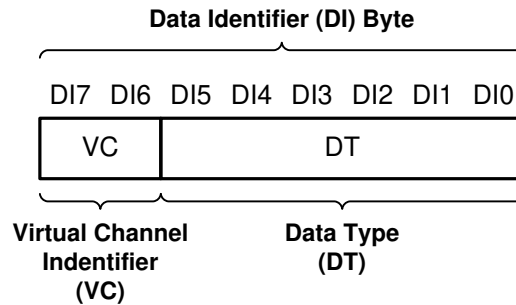

图 7-11. CSI-2 Data Identifier Structure
The DS90UB954-Q1 MIPI CSI-2 protocol interface transmits the data identifier byte containing the values for the virtual channel ID (VC) and data type (DT) for the application specific payload data, as shown in 图 7-11. The virtual channel ID is contained in the 2 MSBs of the data identifier byte and identify the data as directed to one of four virtual channels. The value of the data type is contained in the six LSBs of the data identifier byte. When partnered with a DS90UB953-Q1 or DS90UB935-Q1 serializer, the Data Type is passed through from the received CSI-2 packets. When partnered with DS90UB933-Q1 or DS90UB913A-Q1 the received RAW mode data is converted to CSI-2 Tx packets with assigned data type and virtual channel ID and matches what is sent by the video source.